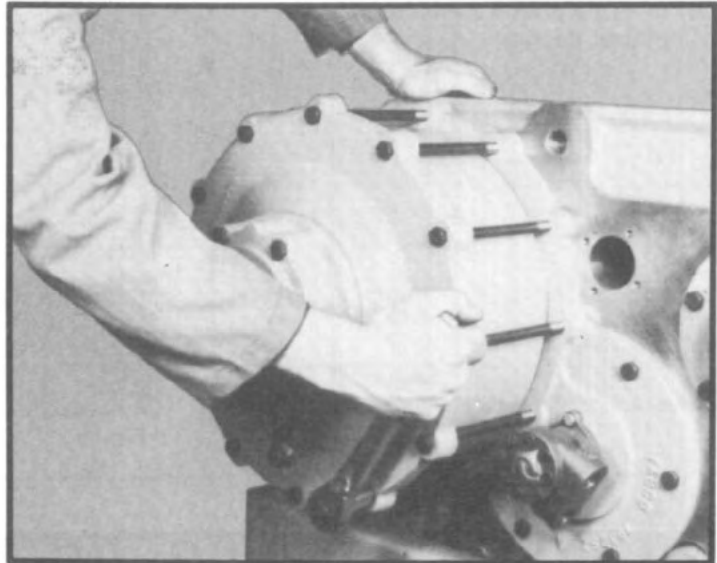
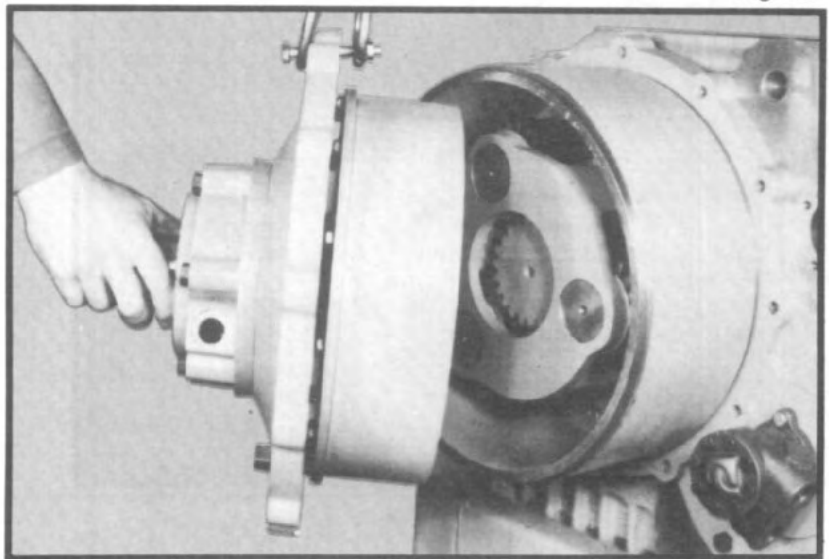

Fig. 60
Fig. 61
3.4 Remove 12 long capscrews from planetary cap. (See fig. 60.) Install a bolt or eyebolt to planetary cap through capscrew hole. Using a chain hoist fastened to the bolt or eyebolt, tap the planetary cap until it is free from the planetary housing. Pull cap away from the planetary assembly until it is free from the planetary gears. (See fig. 61.)